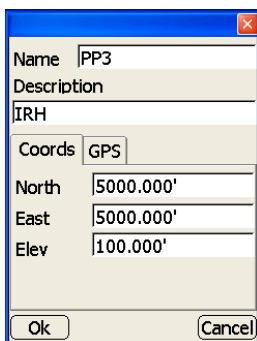

Figure 4-19. Check NEZ Coordinates
- On the *control point description* dialog box, check that the current point has NEZ coordinates (Figure 4-19).